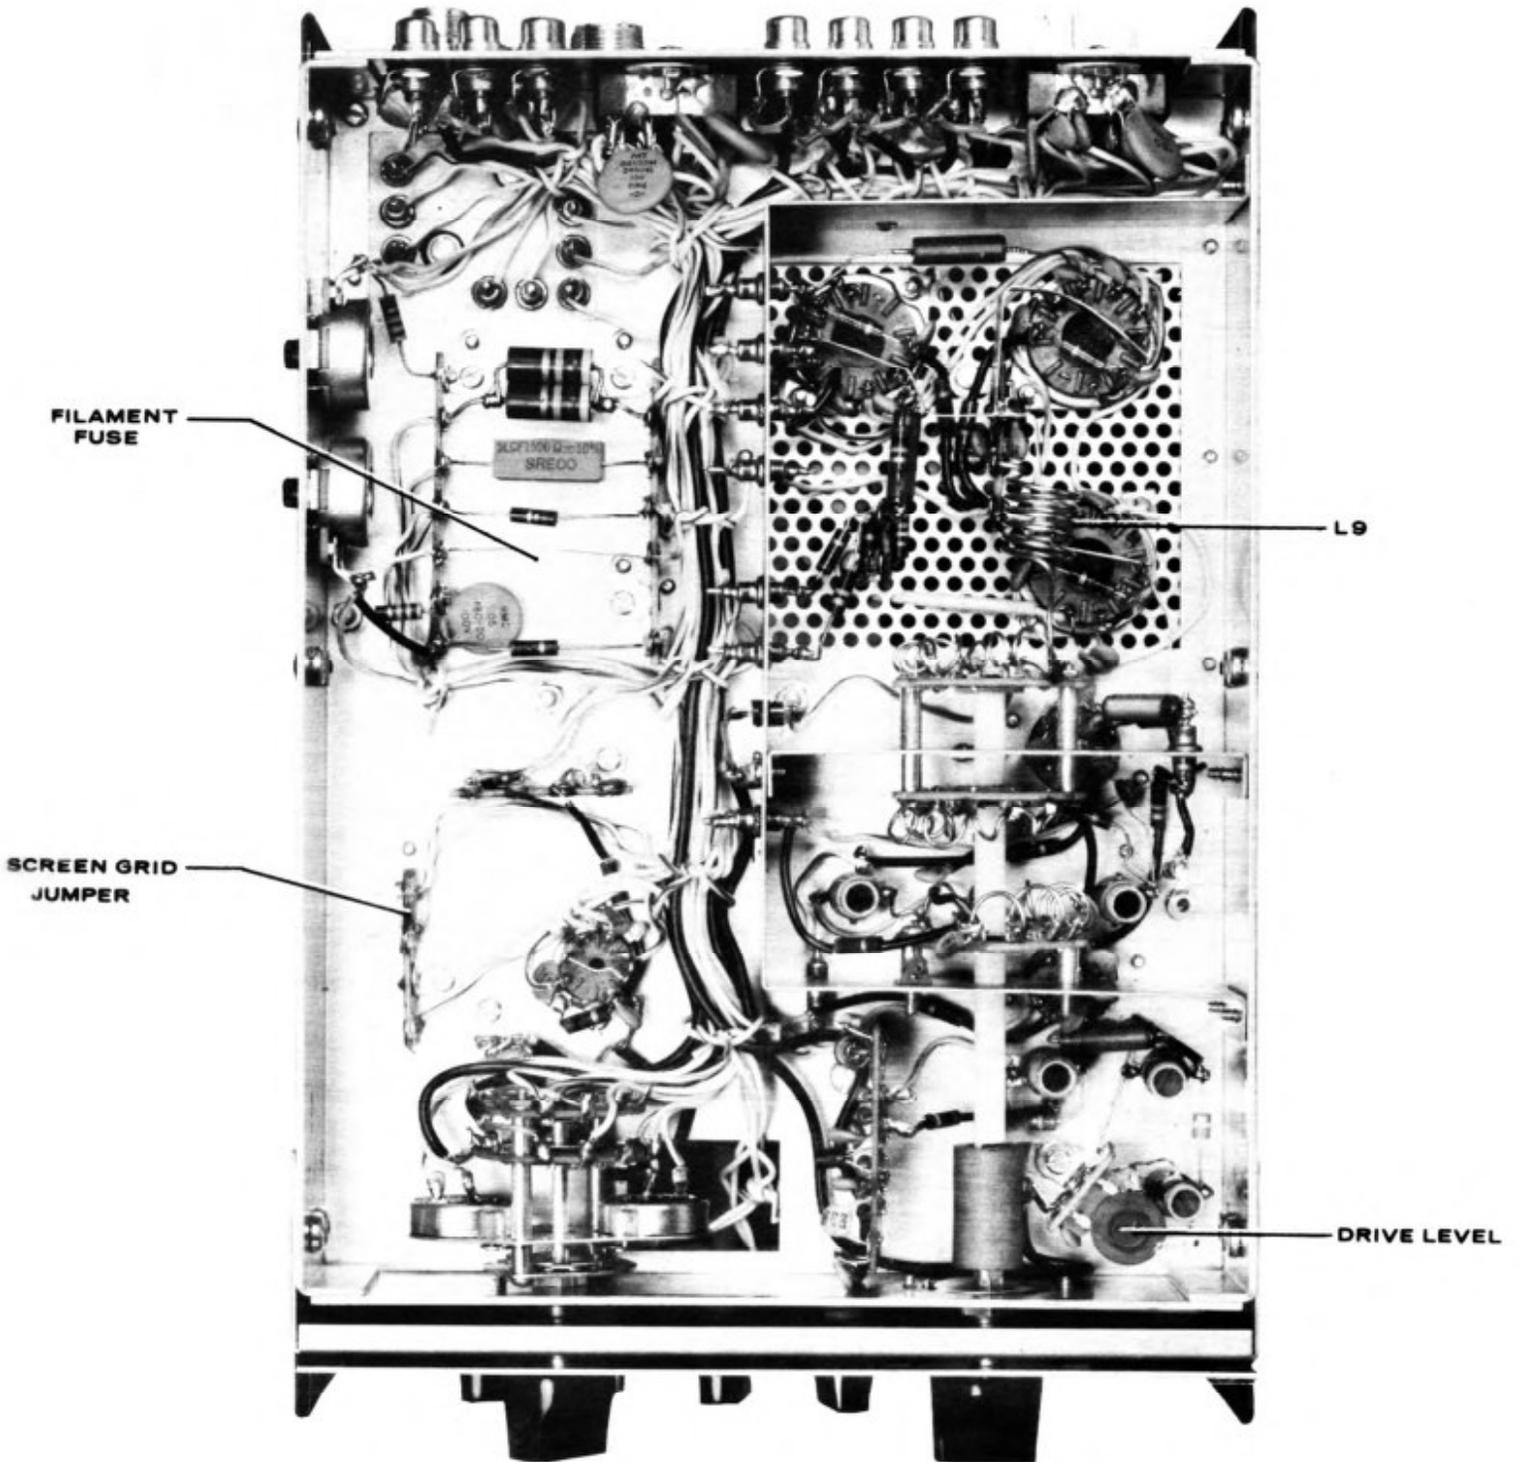

FIG.10
- a. If the TC-6 is not used on AM with a T-4X, adjust the drive level control for maximum output power (full clockwise). See Fig. 10.